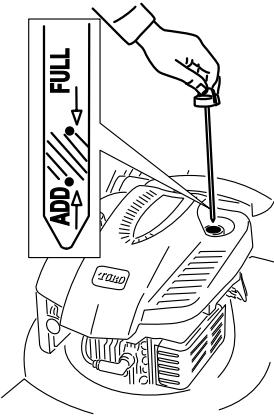

Figure 8
1. Remove the dipstick (Figure 8).
2. Slowly pour oil into the oil fill tube until the oil level reaches the **Full** mark on the dipstick (Figure 8).
1. Remove the dipstick, wipe it clean, and fully install the dipstick (Figure 8).
2. Remove the dipstick and check the oil level (Figure 8). If the oil level is below the **Add** mark on the dipstick, slowly pour oil into the oil fill tube to raise the oil level to the **Full** mark on the dipstick. **Do not overfill.** (Max. fill: 0.59 l, type: SAE 30 detergent oil with an API service classification of SF, SG, SH, SJ, SL, or higher.)